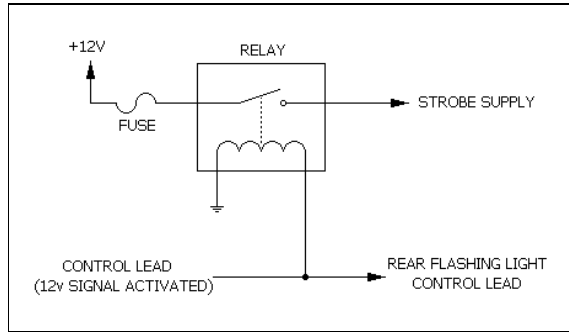

Figure 2
**Powering multiple devices with a common control lead may cause one or more units to briefly remain functional after signal power is removed. For example, due to the high input filter capacitance, a strobe supply can briefly supply the current required to signal the rear flashing light to remain ON. If necessary, use a relay to isolate devices with large filter capacitors. See figure 2 for the schematic. All components/wires are user-supplied.**